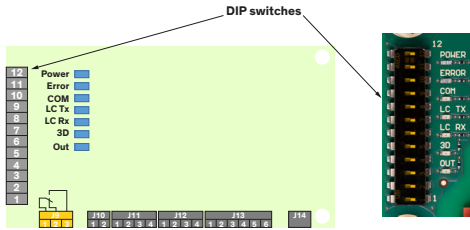

Figure 14: DIP switch location on sensor connection PCB
The cegard/Smart system is configured using twelve (12) DIP switches. The DIP switches are located on the sensor connection PCB as shown in Figure 14 below. For light curtain only (2D) operation, refer to Chapter 6.5.